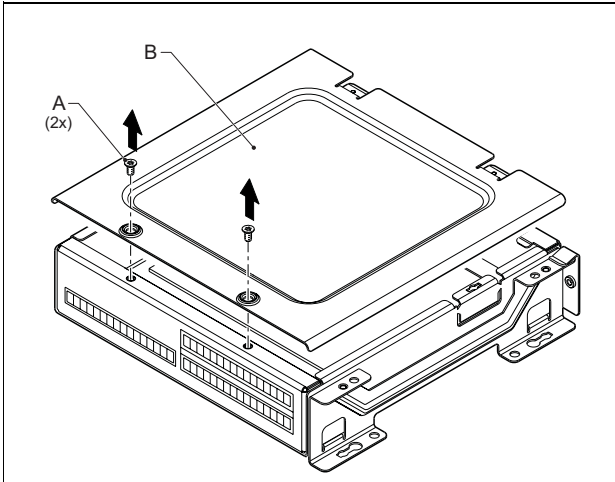

figure 3.8: Module cover removal
- 1 Remove the screws (A) of each module and slide the top cover (B) off (see figure 3.8).